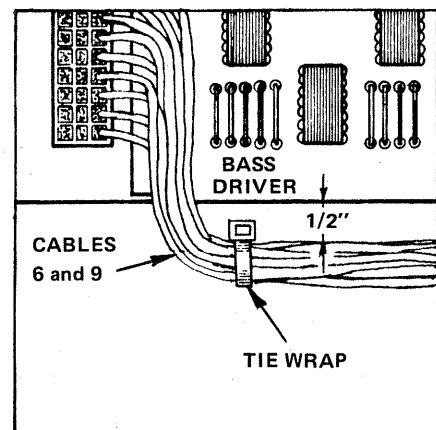

FIGURE 8-21 Tie point 1.
Get the ten (10) Tie Wraps (PN 08350). Bundle Cables #6 and #9 from the Bass Driver Board and tie them together with one of the Tie Wraps so they hang about 1/2" below the bottom of the Driver Board as shown in FIGURE 8-21. See the NOTE below.